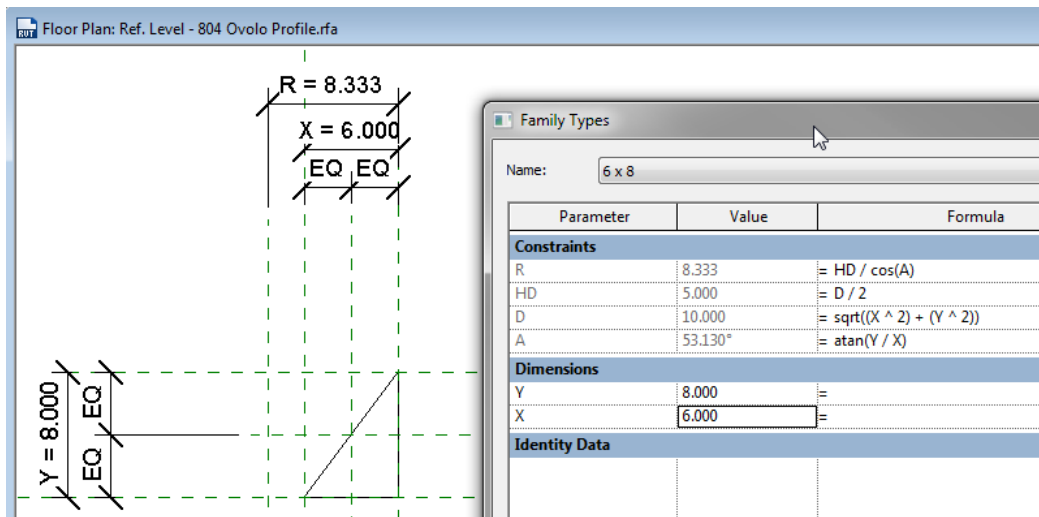

Figure 35—Create the parameters and Family Types
9. Flex the family by creating a few Family Types (see Figure 35).